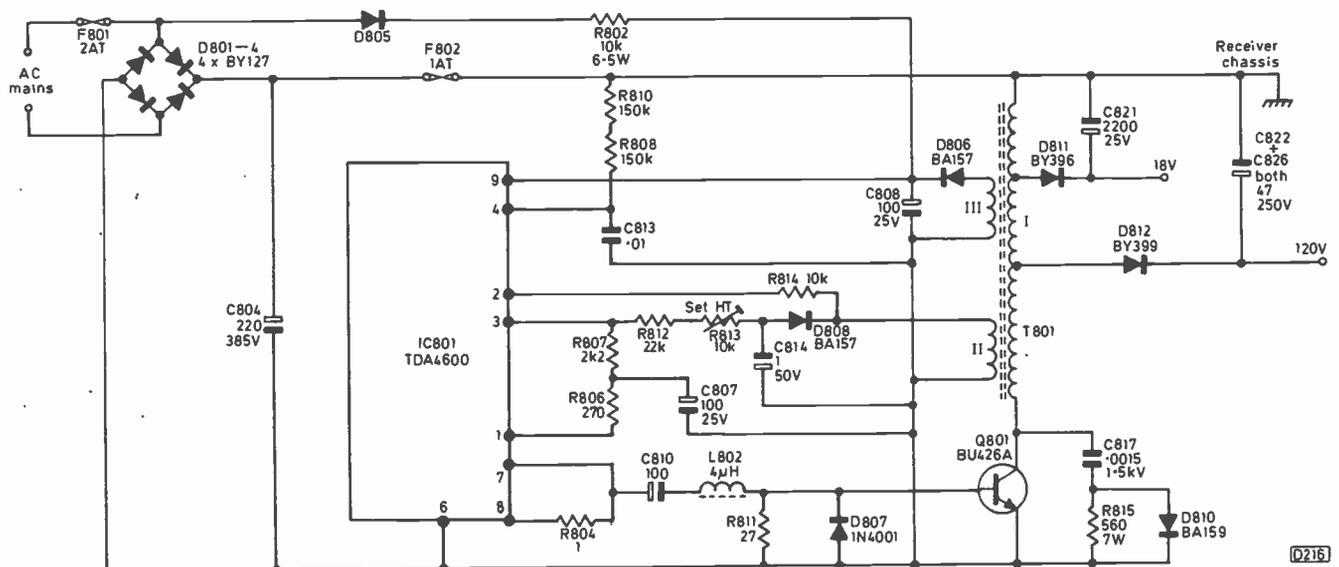
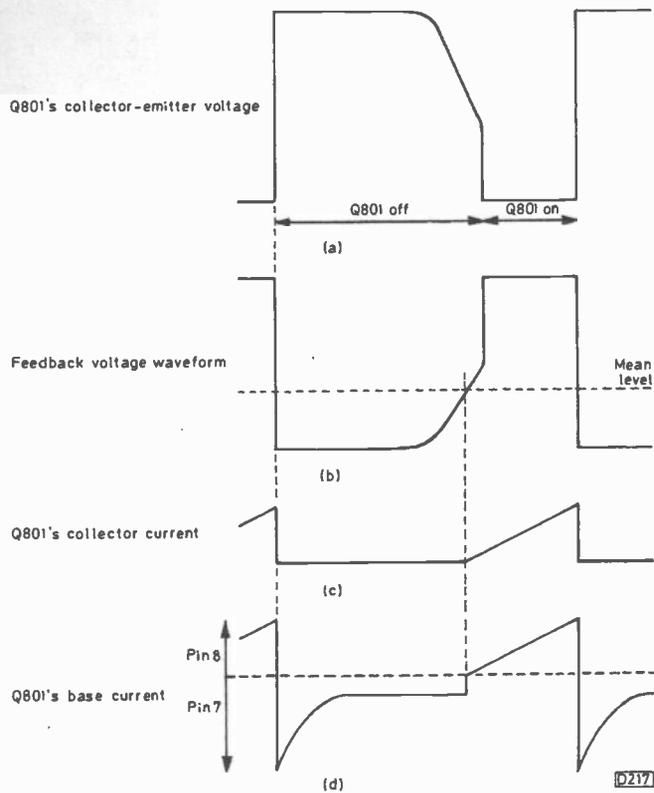

Fig. 13: Simplified circuit of the free-running switch-mode power supply.
Fig. 14: Switch-mode power supply waveforms.
A simplified circuit of the power supply is shown in Fig. 13. The output section consists of the chopper transistor Q801 and its load transformer T801. It operates as a flyback converter, the energy stored in T801 when the chopper transistor is conductive being transferred to the load (i.e. the TV set) when the chopper transistor switches off. Fig. 14 shows the basic waveforms. The diode bridge D801-4 charges the reservoir capacitor C804 from the mains – note that the positive plate of this capacitor is connected to the receiver's chassis, as a result of which the power supply circuitry is at some $-300V$ with respect to chassis. Most of us have had at least one belt from this arrangement during development, so be warned! Don't think you're out of trouble when the set is switched off either, because C804 retains its charge. We added a $180k\Omega$, $1W$ resistor across C804 to provide a discharge path when the set is switched off, but this still takes a few seconds. So check with an AVO before diving into the chassis – the heatsinks for the chopper transistor and the control i.c. are both connected to the negative supply line.
D812 conduct, charging their reservoir capacitors C821 and C822 + C826 from the energy stored in the transformer. After a while the energy begins to run out, the field around the primary winding starts to collapse, and the chopper transistor's collector voltage starts to fall – see Fig. 14(a). The shape of the waveform at this point resembles part of a sine wave, C817 acting as a tuning capacitor. The feedback winding (II) on the transformer feeds a smaller, inverted version of this waveform – see Fig. 14(b) – to pin 2 of the control i.c., via R814. Within the i.c., a zero-crossing detector senses the point at which the feedback waveform crosses the 0V line (mean level). When this occurs, logic circuitry in the i.c. switches on the base drive current to the chopper transistor, via pin 8 and R804. Q801's collector current then rises linearly – see Fig. 14(c) – since it's driving an inductive load.
Q801's on time depends on the mains voltage and the load conditions – in other words on the amount of energy required to maintain the output voltages. The transistor is turned off by a current flowing via pin 7 of the i.c. – see Fig. 14(d). The cycle is then repeated, the frequency of oscillation and the mark-space ratio altering with mains voltage changes and load variations. L802, R811 and D807 are included to improve Q801's turn-off behaviour.
We mentioned earlier that when Q801 switches on its collector current rises linearly. To avoid its base over saturating – which would slow down the current turn-off – the i.c. provides a linearly rising base current drive, as shown in Fig. 14(d). In order to sense how much drive to provide, the RC network R808/R810/C813 feeds a sawtooth voltage to pin 4 of the i.c. The voltage across C813 is proportional to Q801's collector current and to the mains voltage. If the mains voltage increases for example, Q801's collector current will rise at a greater rate: the slope